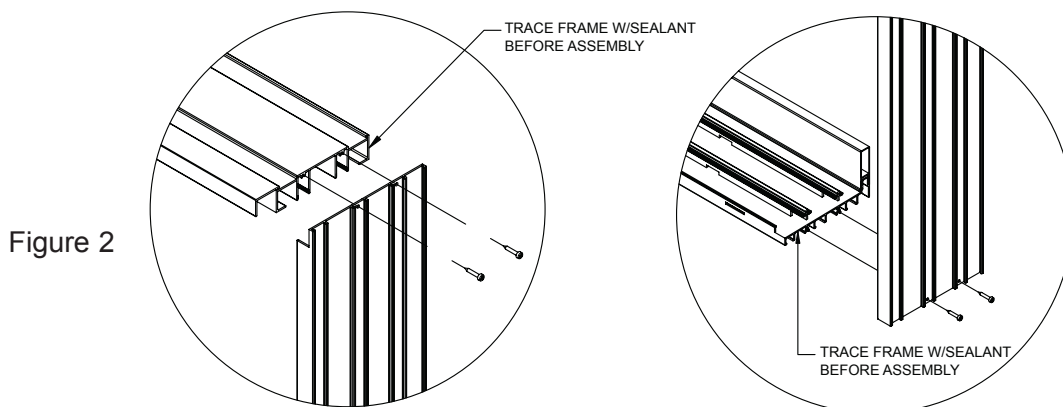

Figure 2
3. Assemble mainframe using the supplied # 8 x 1" Phillips pan head screws at each assembly hole. (See Figure 2)